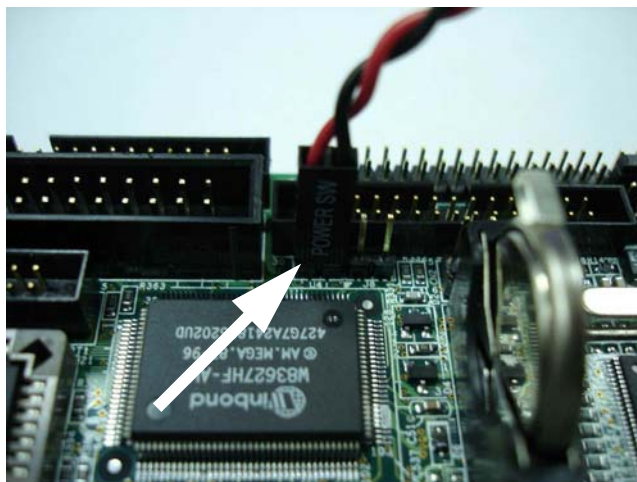

Figure 5-5
Step 5: Connect TOGGLE SWITCH with J7 connector on ROBO-6710/6730 series (Figure 5-5), which is used to power on ATX Power Supply.